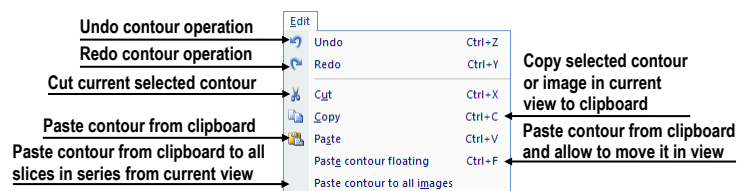

Figure 39 – Edit menu
- **Edit** – clipboard operations with images in the current view and the selected ROI contour, see Figure 39.